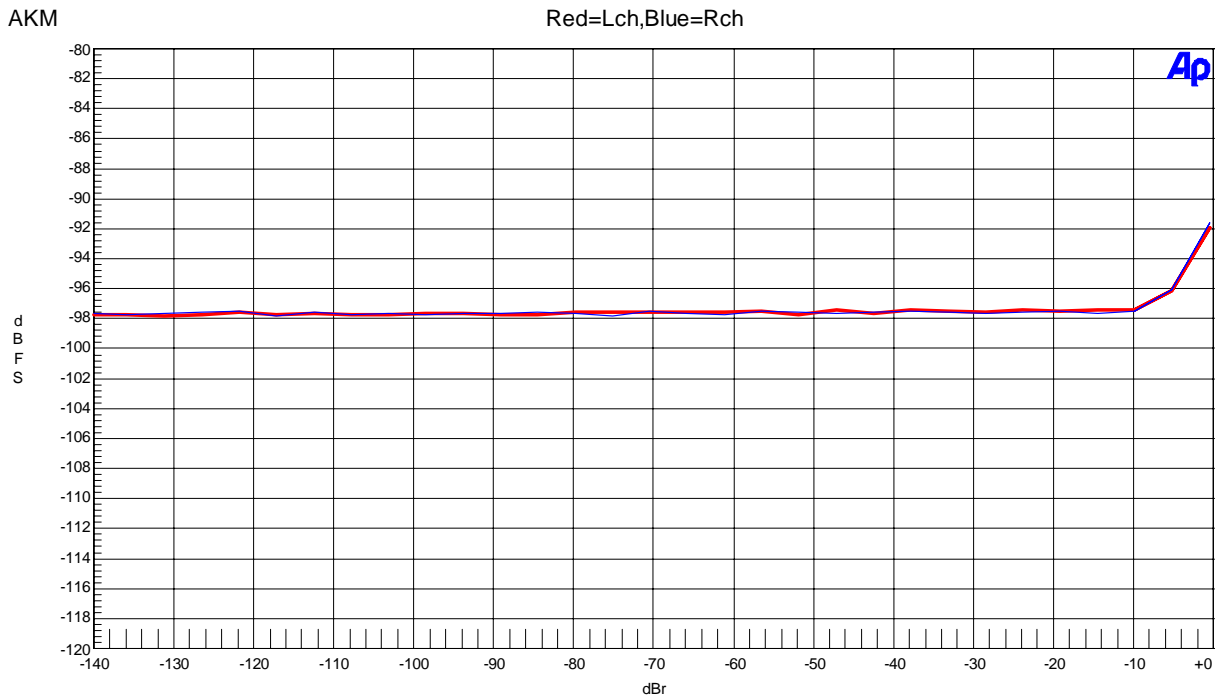

Figure 19. THD + N vs Input Level (Input Frequency=1kHz)
- Figure 19. THD+N vs f_{in} (Input Level=0dBFS)